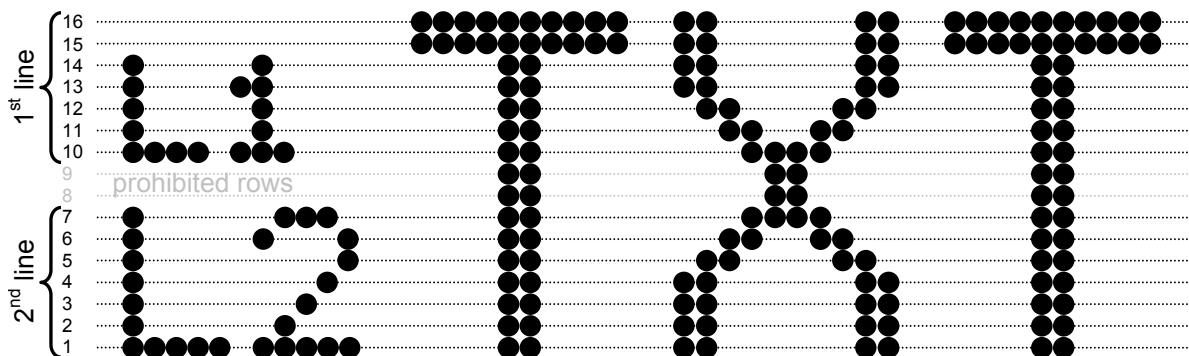

Fig. 4.7.1.5
- none of the prohibited rows (rows numbered 8, 9 - see Fig. 4.7.1.5) can be used.
The text shown in Fig. 4.7.1.5 does not meet the **2 lines x 7 dots** profile's requirements as: